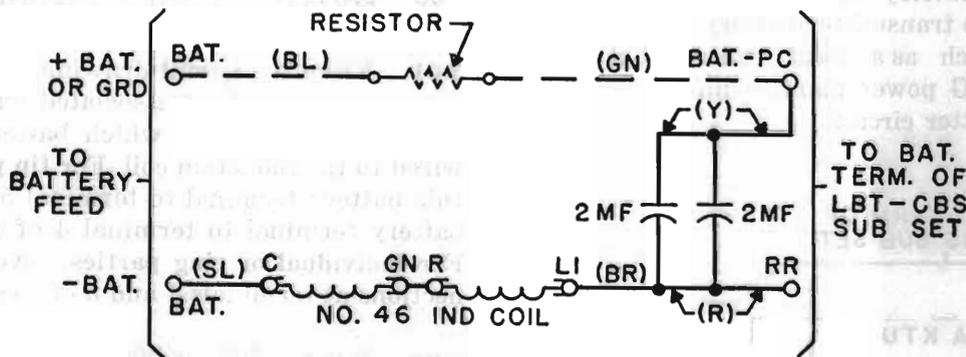

Fig. 2 — 634BD Subscriber Set (Battery Feed Filter)
4.02 Connect battery to the 634BD subscriber set as shown in Fig. 2. If a resistor is required to limit the transmitter current to 100 to 125 mills, connect as shown by dotted lines. If a resistor is not used, connect the positive